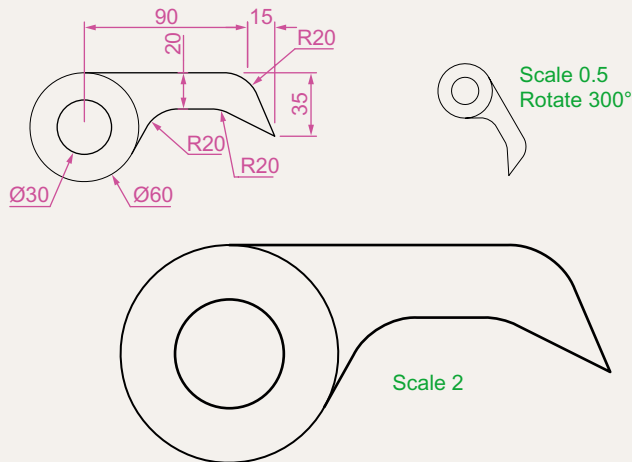

Fig. 5.54 Exercise 8
8. Construct the dimensioned drawing of Fig. 5.54. With **Copy** copy the drawing. Then with **Scale** scale the drawing to scale of **0.5**, followed by using **Rotate** to rotate the drawing through an angle of as shown. Finally scale the original drawing to a scale of **2:1**.